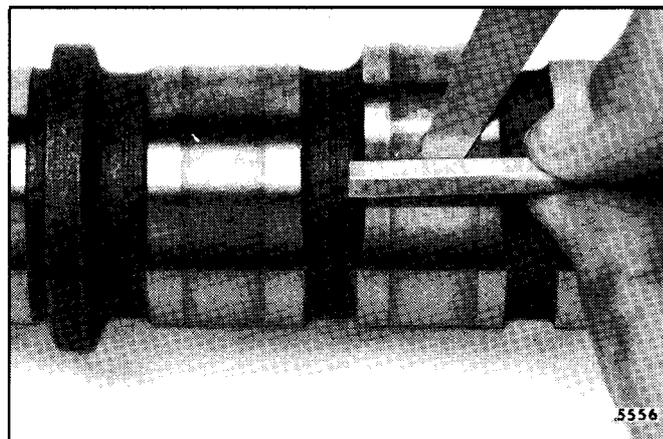

Fig. 4 - Checking Cam Lobe Wear
1. With a tapered leaf set of feeler gages (.0015"-.0100") and a piece of square hard material  $1/8$ " x  $3/8$ " x 1" measure the flat on the injector rise side of the cam lobes (Fig. 4).